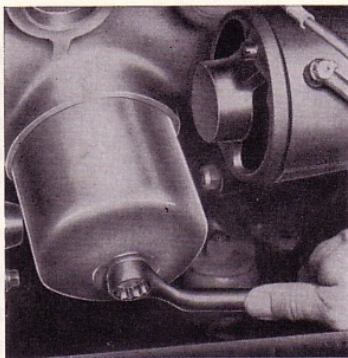

Fig. 9. Removing the oil filter (B 16)
2. Loosen the centre bolt (Fig. 9) and collect up the oil that runs out.